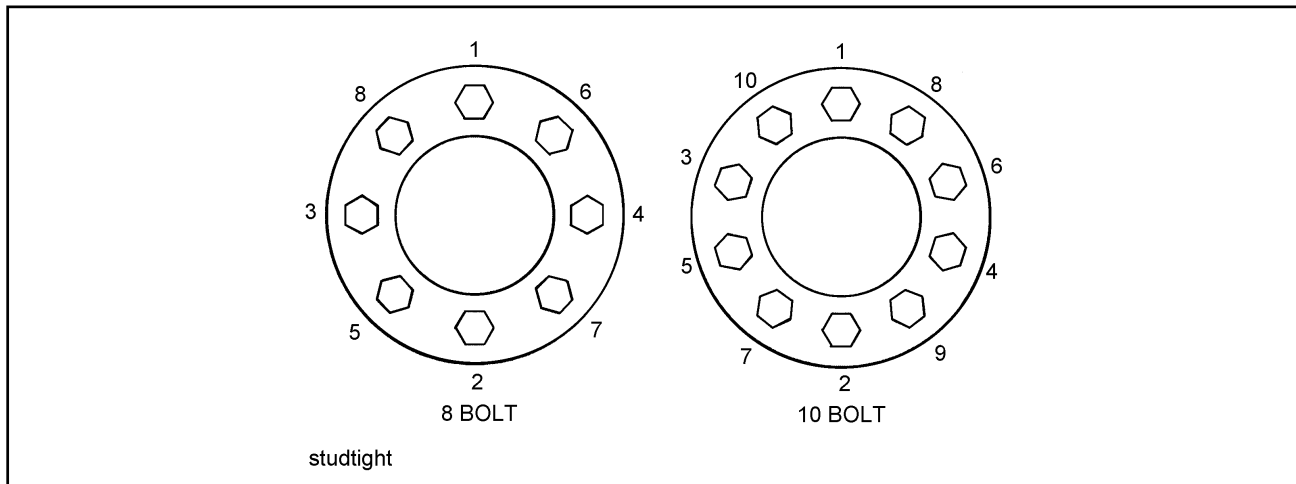

Figure 4-17 Stud Tightening Sequence
- d. Install the flange nut and tighten to 50 foot-pounds using the sequence in **Figure 4-17**. Then tighten to full torque of 500 to 550 foot-pounds.
Improper tightening sequence: follow proper tightening sequence. (See Figure 4-17)